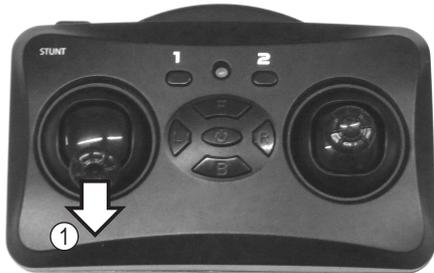

Figure 30
**Step 1:** Now move the joystick for the pitch function (Figure 29, no. 5) to the lowest position = motor off position (Figure 30).